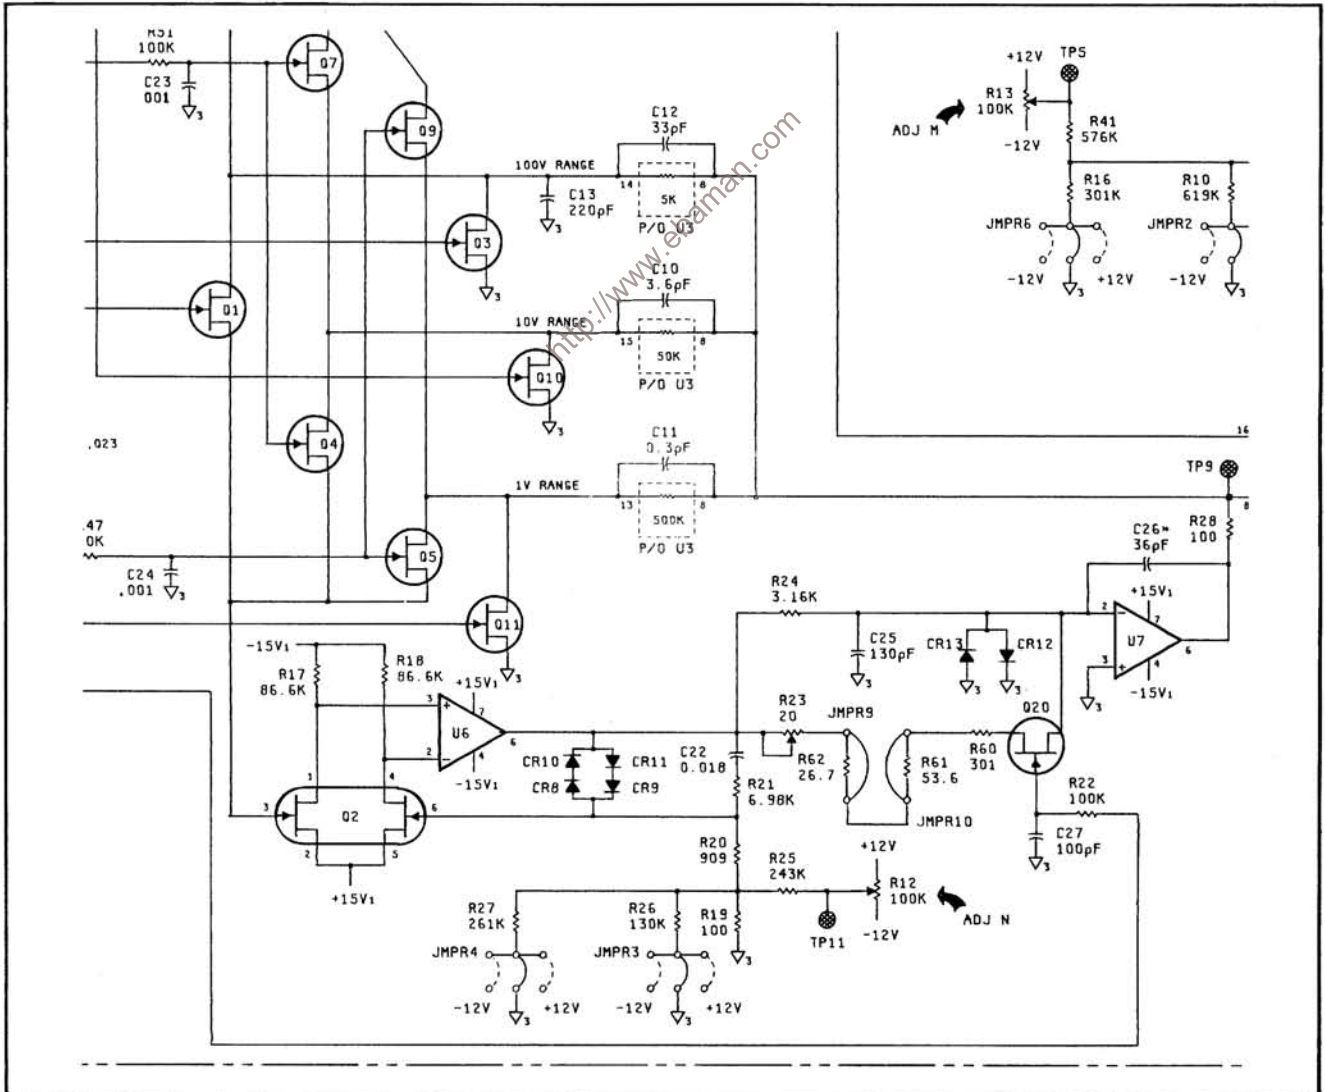

Figure 7-4. Change #5 on Schematic 7
1. Add C11 (a 0.3pF capacitor) to the schematic, as shown in Figure 7-4. Do not add the capacitor if missing from the A40 assembly or hybrid U3 has been replaced.